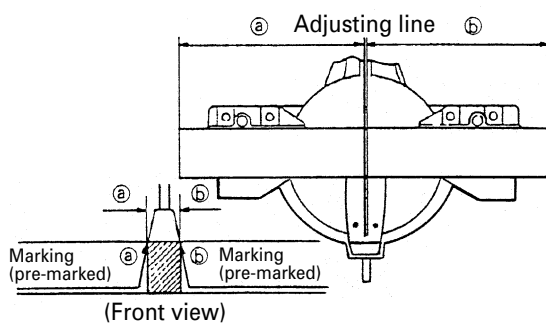

Fig. 22
- (1) As shown in Fig. 22 the width of the saw blade is the width of the cut. Therefore, slide the workpiece to the right (viewed from the operator's position) when length (b) is desired, or to the left when length (a) is desired.